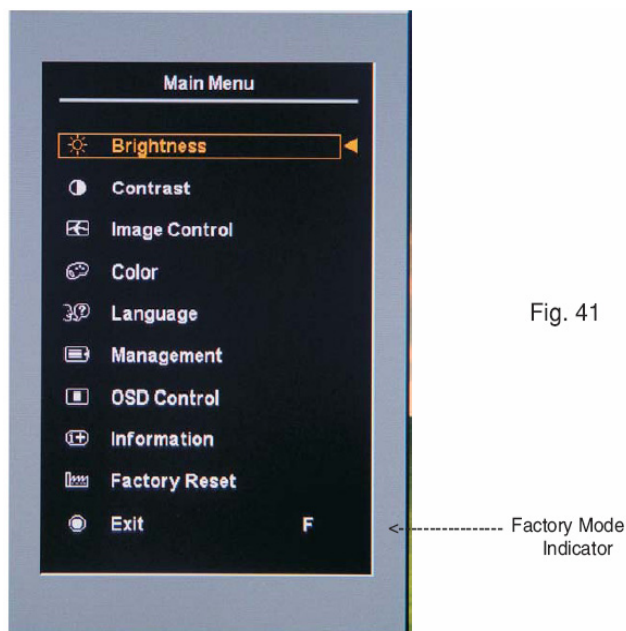

Fig. 41
2). [Push "Auto Adjust " and "+"(plus) and hold them at the same time ] + [Press power "Power " button untill comes out "Windows screen"] => then release all button, then press "Menu" button, wait until the OSD menu with Character "F" (below OSD menu) come on the Screen of the monitor (see Fig. 41).